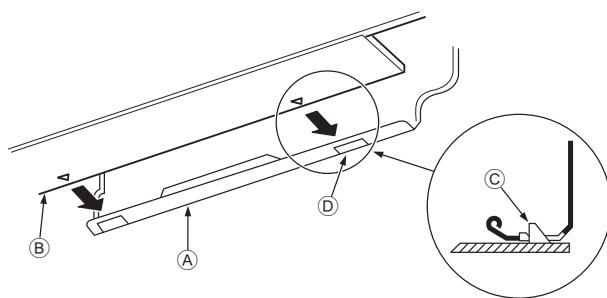

Fig. 3-15
3. While inserting the refrigerant piping and drain hose into the wall penetration hole (penetration sleeve), hang the top of the indoor unit to the mount board ①.
5. Fasten by pushing the bottom part of the indoor unit onto the mount board ①. (Fig. 3-15)
- * Check that the knobs on the bottom of the indoor unit are securely hooked into the mount board ①.
- Ⓐ Mount board ①